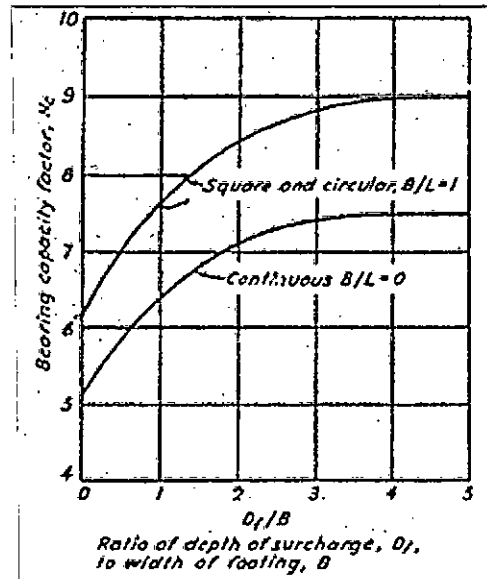

Fig.2 Bearing capacity factors for foundations on clay under $\phi = 0$ conditions
(b) Analyze the beam shown in Fig. 2 following moment distribution method and draw the shear force and bending moment diagrams. In addition to the loads shown, the support at B moves up 0.25 ft.
- (c) A building is to be supported on a RCC raft foundation of plan area 50 ft by 70 ft. The sub-soil is clay with an unconfined compressive strength of 1 tsf. The estimated weight of the building, including design live loads, is 8500 ton. If the unit weight of the soil is 115 pcf, design the depth of the raft with a factor of safety of 3? Consider that, though not permanently, water table will be at the ground surface sometimes over the year. (Use Fig. 2 for bearing capacity factor N_c) (13)